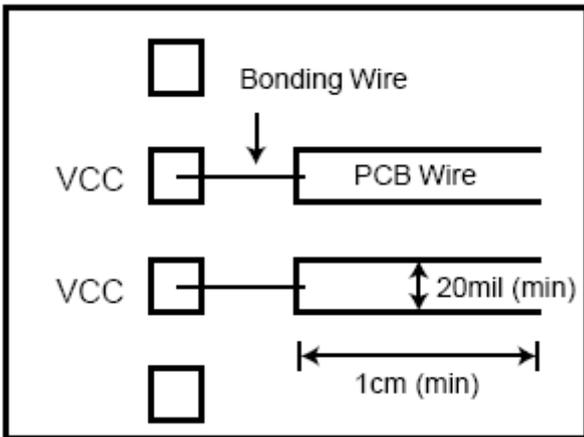

Figure 1 Power Pin Pitch
2. Please keep the PCB layout width ≥ 20 mil for the VCC/VCCQ and VSS/VSSQ.(Figure 1)